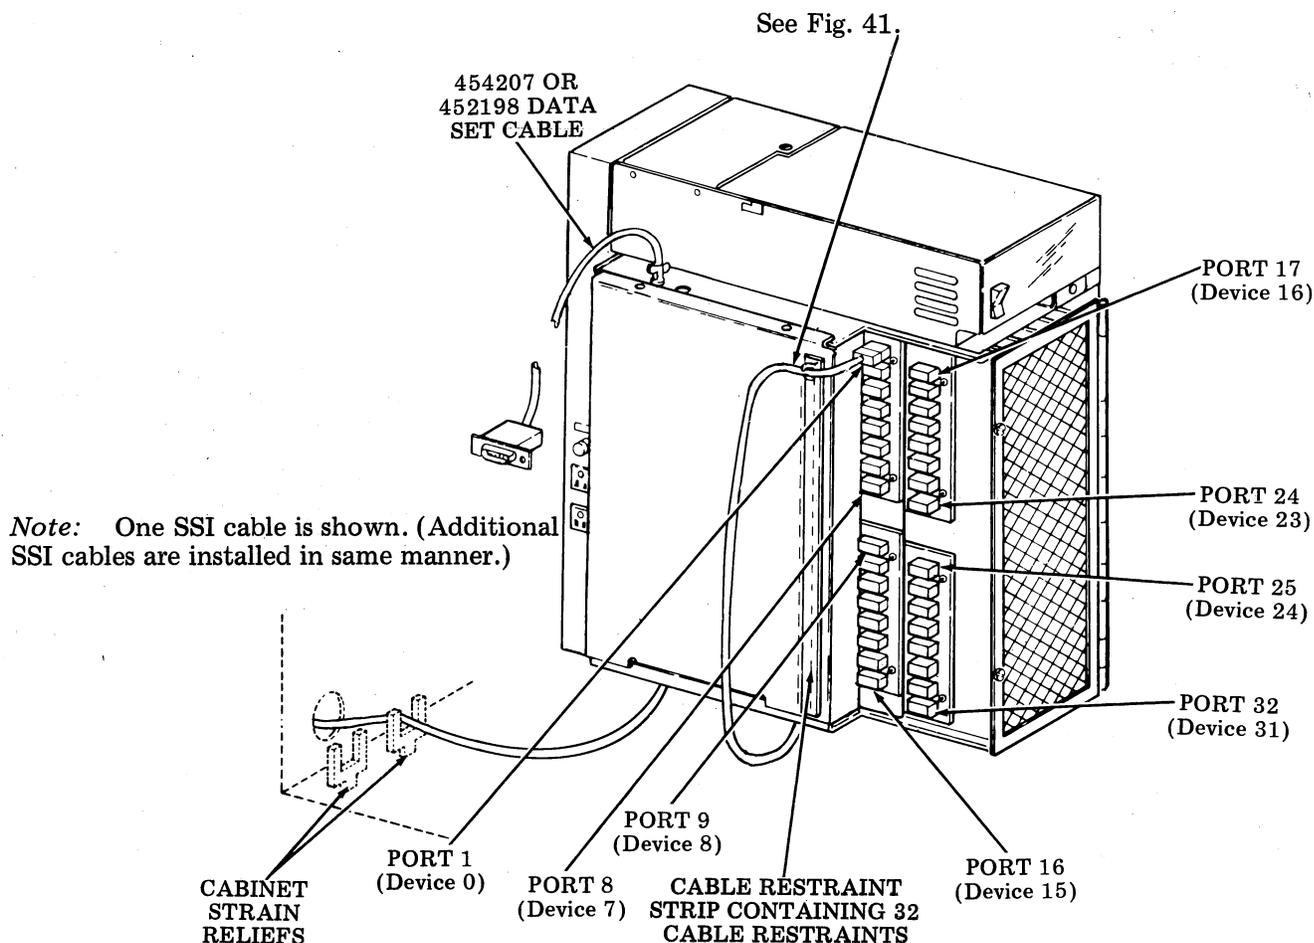

Fig. 42
- ④ Place about half the cables in one cabinet strain relief (see Fig. 42) and the other cables in the other cabinet strain relief. (This applies to the ac cord and, if data set is external to cabinet, the data set cable.) Cabinets manufactured before March 1979 are not equipped with strain reliefs. Install keepers (removed earlier) on cabinet strain reliefs.